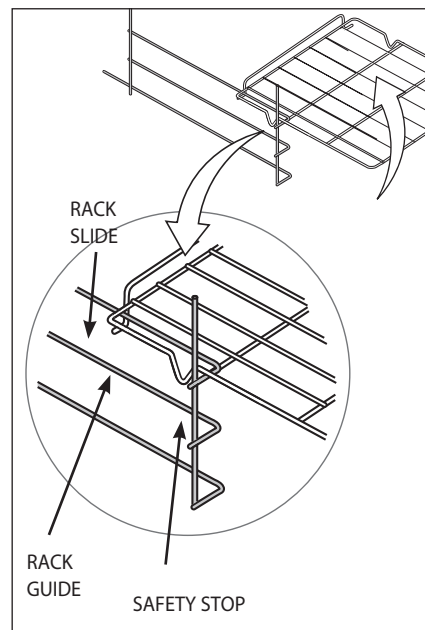

Fig. 02
2. As you slide the rack into the oven, tip the front of the rack up slightly, so that the safety stops on the back of the rack, clear the rack slides (see Fig. 02). The safety stops keep the rack from sliding out of the oven when pulled forward.